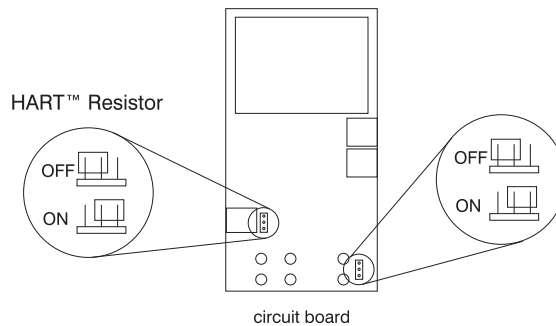

Figure 9.
4. Figure 9. shows the location of the Hart™ jumpers.